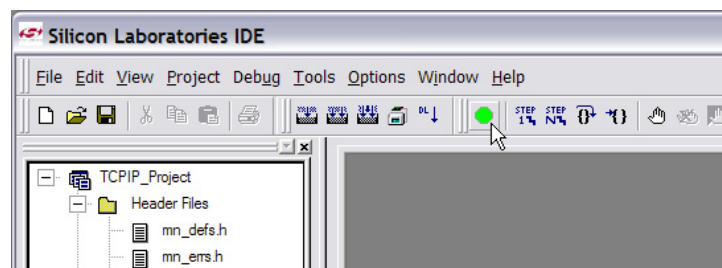

Figure 11. Running the Demo in the Silicon Labs IDE
7. Run the demo by clicking the **Go** button in the toolbar (see Figure 11), selecting **Debug→Go** from the menu, or pressing the shortcut key **F5**.